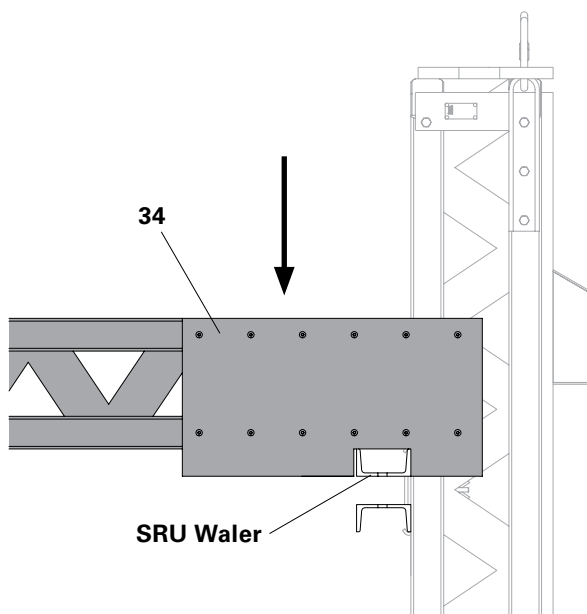

Fig. C1.07
2. Attach the Distance Device (34) on both sides in the top SRU Waler of the internal formwork.
- (Fig. C1.07)